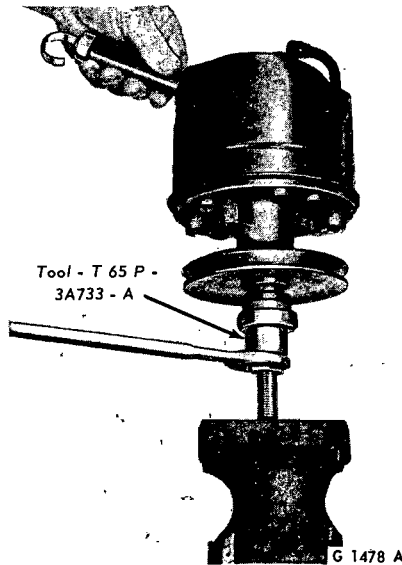

FIG. 6—Pulley Installation
1. Position the pulley to the pump shaft and install Tool T65P-3A733-A as shown in Fig. 6.